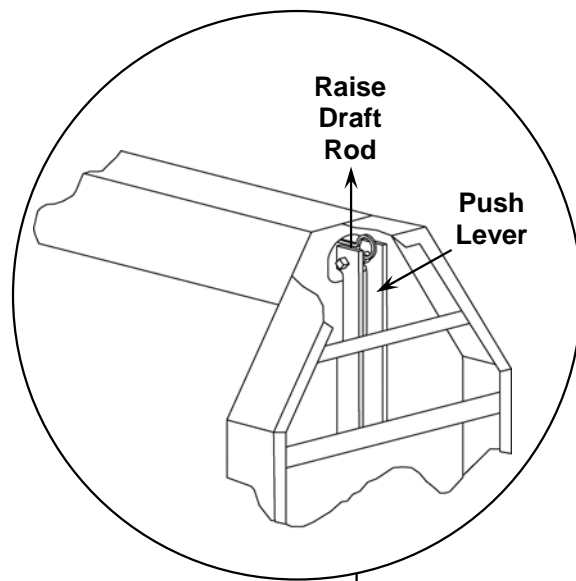

Figure No. 4
9. Using a desk or table, lay down scale with column horizontal to floor. Raise draft rod keeping out of lever's way. Push lever. When lever is in position, hook draft rod around pivot. See Figure No. 4.